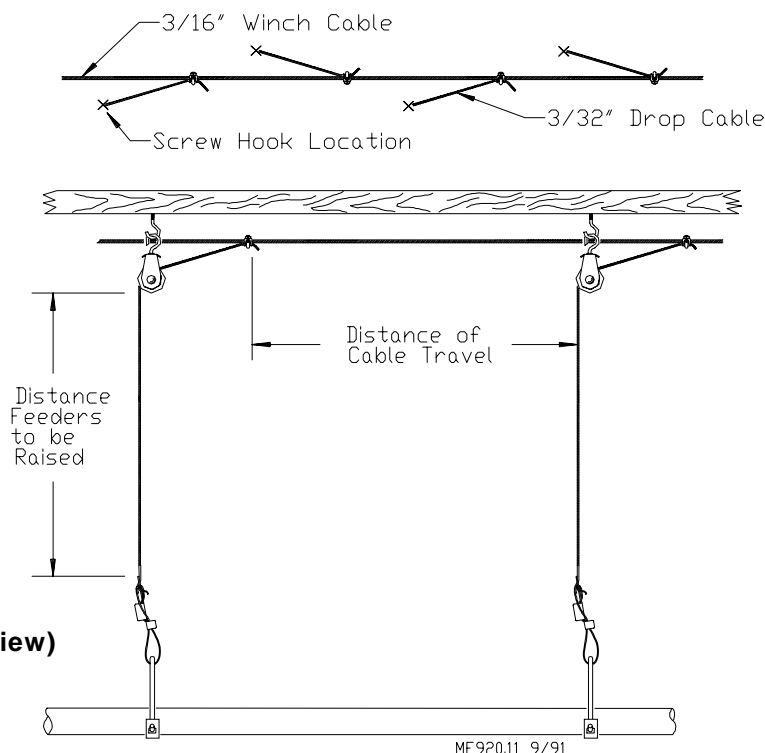

Figure 2. (Side View)
5. If the distance raised is greater than the distance between the drop spacings, offset the hooks 3" (75 mm) to each side of the line to prevent the cable clamps from catching the pulleys. See **Figure 2**.